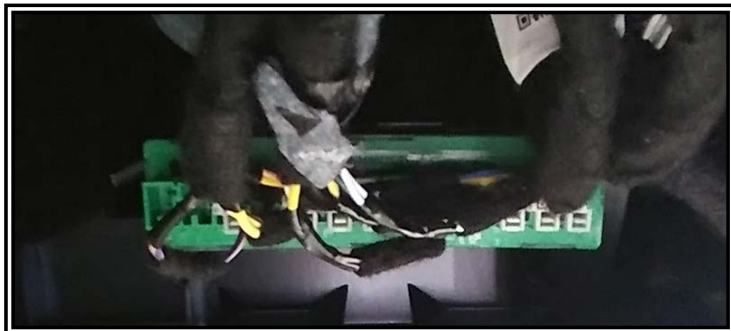

Figure 1
Step 1. Locate the OEM CAN-C port on the vehicle. For a Charger, this will be located behind the dash, below the glove box, facing the floorboard, on the passenger side. For the Durango, the port will be located behind the dash on the driver side, to the left of the steering column. In both cases, the CAN-C ports will have the same look, as seen in FIGURE 1.